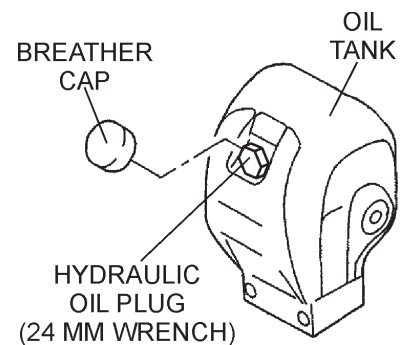

Figure 8. Hydraulic Oil Filler Plug Removal
2. Remove the hydraulic oil breather cap located at the top of the hydraulic oil tank (Figure 8).